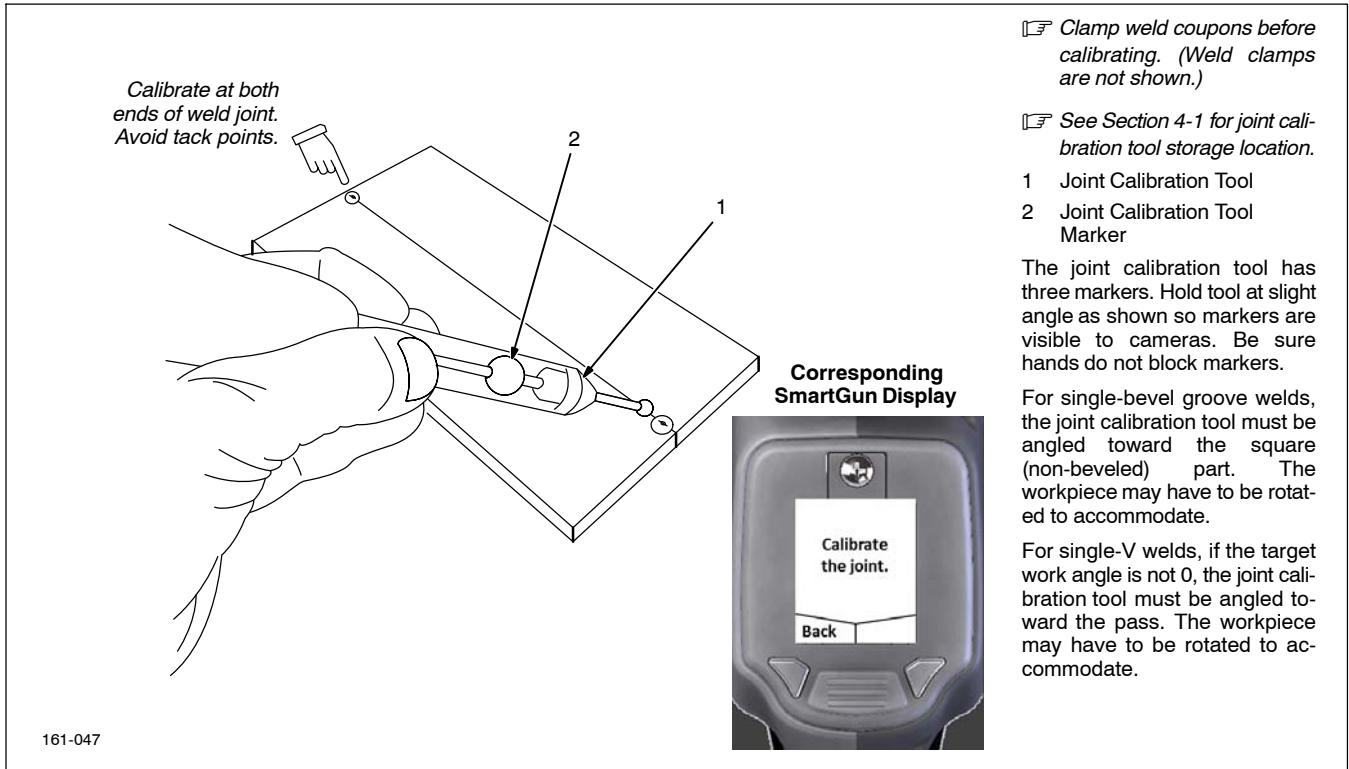

Figure 7-13. Calibrating Weld Joint
3. Calibrate both ends of weld joint. System chimes and touchscreen displays checkmark to indicate successful calibration. See Section 6-4 and Figure 7-13.